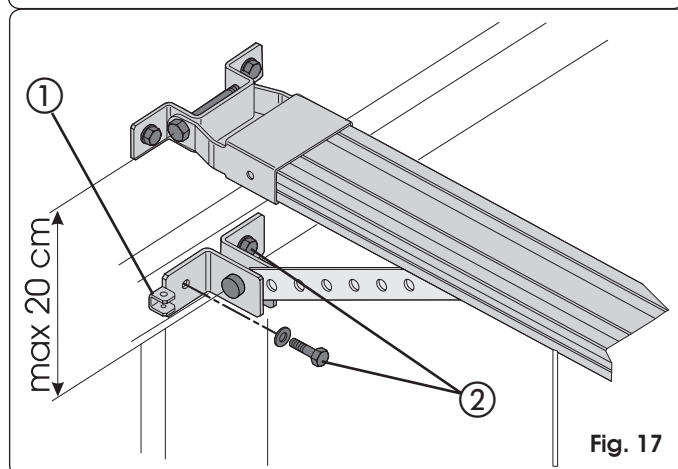
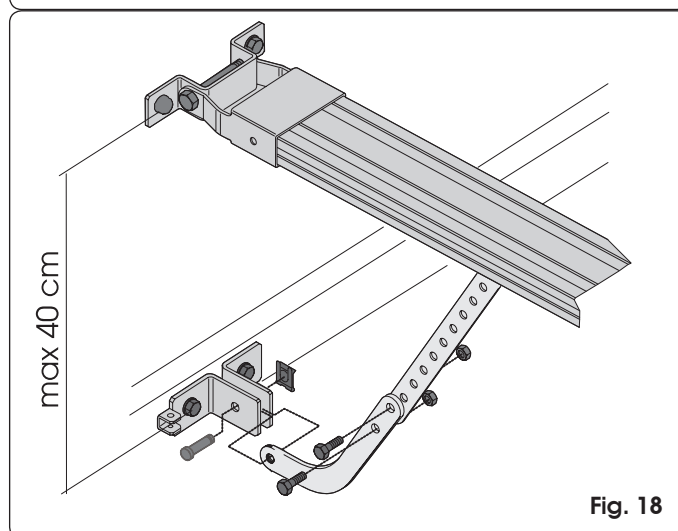

Fig. 17
Fig. 18
Position the fitting on the door so that the through-element of the release cable is facing toward the left side of the door (ref. ① Fig. 17).
- 4) Make sure that the distance between the between-centres of the securing holes of the front fitting and the on-door fitting does not exceed 20 cm (Fig. 17). To ensure correct operation of the automated system, we advise you to avoid arm inclinations of over 30° compared to the sliding guide. If using the curved arm for sectional doors (optional), carry out the assembly with the straight arm of the carriage as shown in Fig. 18. To improve efficiency of the anti-crushing system, we advise you to secure the fitting on the sectional door as low as possible, without, however, exceeding the distance of 40 cm from the operator's front fitting.
- 5) Mark, drill and secure the fitting to the door, using the screws (ref. ② Fig. 17) **NOT** supplied.